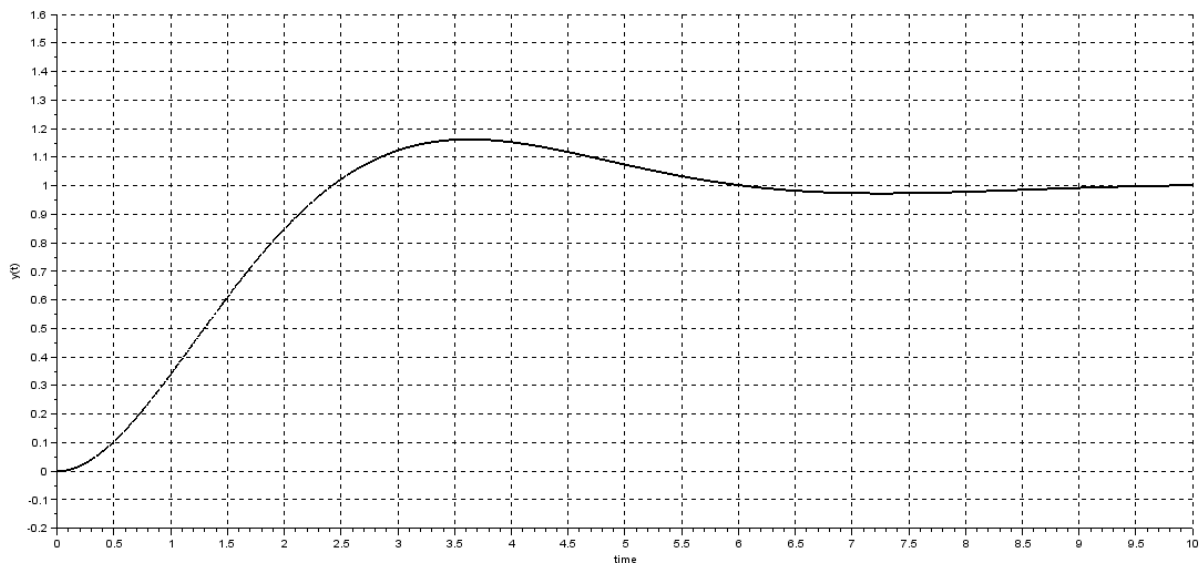

FIGURE 3 – Step response of the robot.
6. A unit step response of the robot is depicted in Figure 3. By means of this curve, identify the static gain, the damping ratio and the natural frequency of the system. Deduce the value of  $m$  and  $\alpha$ .
- Run the simulation and check that you obtain a similar step response to Figure 3.